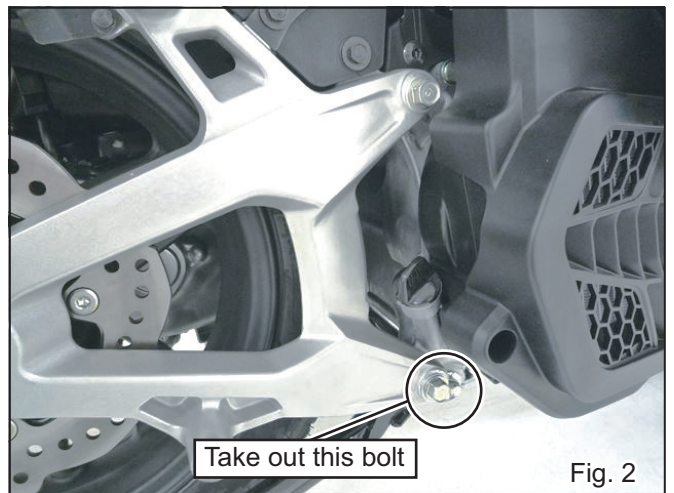

Fig. 2
- 3) Take out stock bolt and washer which is mounting swing arm bottom side. (See Fig. 2)